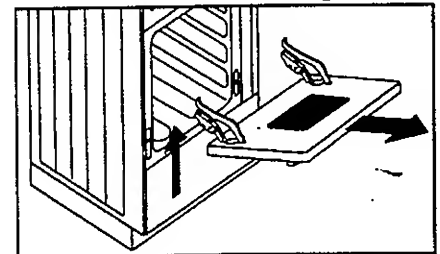

Figure 12
- There is a small ring on each hinge. Pull the ring over the claw-like hook, which is part of the hinge mechanism. Do not forget to do this on both hinges before the next step. (See Figure 12)